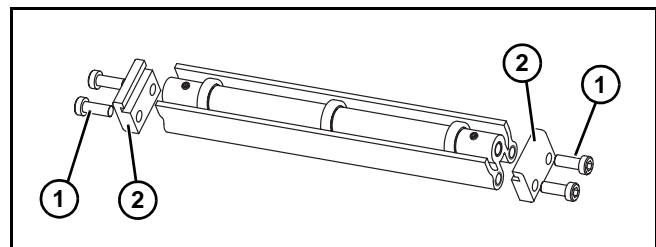

Figure 15
1. Locate return rollers. Exploded view shown in **Figure 15**.
2. Remove screws (**Figure 15, item 1**) and clips (**Figure 15, item 2**) from roller assembly.